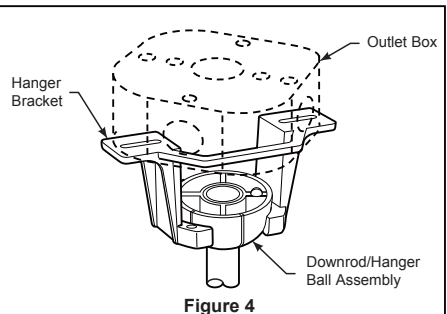

Figure 4
- 4. Thread downrod into the downrod support on top of the motor. Install the clevis pin by aligning the holes in the downrod support with holes in the downrod. Secure clevis pin with hairpin clip. Tighten the two set screws with nuts in the downrod support. (Figure 4)
2. Carefully lift the fan and seat the downrod/hanger ball assembly onto the hanger bracket that was just attached to the outlet box. Be sure the groove in the ball is lined up with tab on the hanger bracket. (Figure 4) This fan is intended for standard and angled mounting options only. Closemount and flushmount options are not available. For angled ceilings, note the angle can be no more than 19°.
3. Connect wires using connectors as shown in Figure 4.